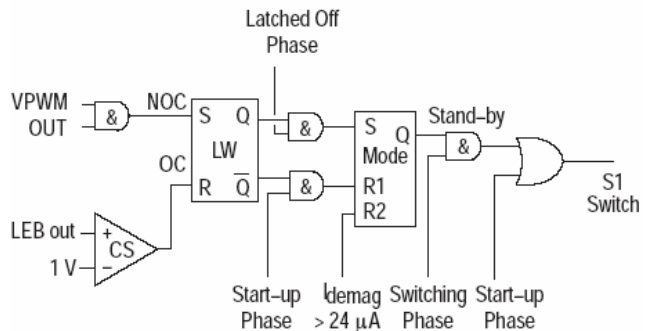

Figure 8. Transition Logic
The LW latch Figure 8 is the memory of the working status at the end of every switching sequence.
**The SWITCHING PHASE:** The SMPS output is low and the regulation block reacts by increasing the ON time ( $d_{max} = 80\%$ ). The OC is reached at the end of every switching cycle. The LW latch (Figure 8) is reset before the VPWM signal appears. The SMPS output voltage is low. The  $V_{CC}$  voltage cannot be maintained at a normal level as the auxiliary winding provides a voltage which is also reduced in a ratio similar to the one on the output (i.e.  $V_{out\ nominal} / V_{out\ short-circuit}$ ). Consequently the  $V_{CC}$  voltage is reduced at an operating rate given by the combination  $V_{CC}$  capacitor value together with the  $I_{CC}$  working consumption (3.2 mA) according to the equation 2. When  $V_{CC}$  crosses 10V the WORKING PHASE gets terminated. The LW latch remains in the reset status.